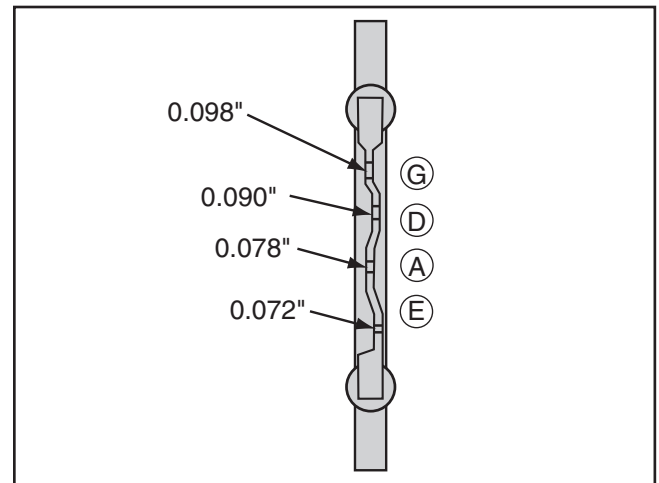

Figure 38. String slot example.
1. Use a narrow file to make slots in the bridge. Angle the slots toward the tailpiece. See **Figure 38** for string spacing on the bridge.